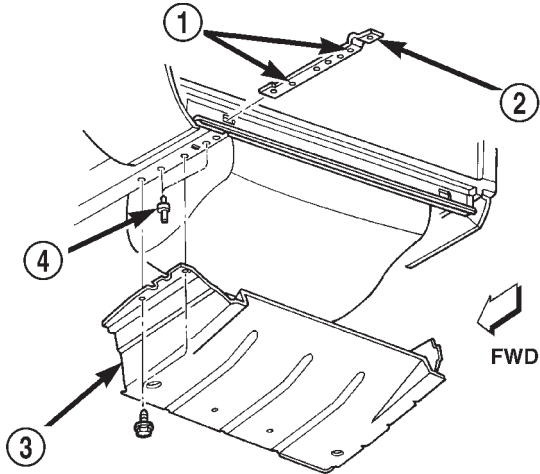

Fig. 3 Fuel Tank Skid Plate
- (1) Position a support under skid plate.
- (2) Remove bolts that attach skid plate to underbody side rails (Fig. 3).
- (3) Remove support and skid plate from vehicle.